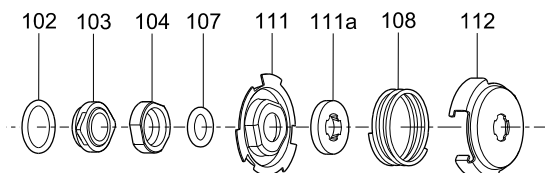

Fig. 22 Exploded view of shaft seal
8. Continue the dismantling until shaft seal (pos. 105).
9. Remove shaft seal (pos. 105). See fig. 22.